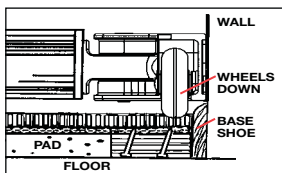

Figure 12
- D. Finally, attach Folding Tail Block and place against the stretch-off wall. The wheels lift it over most existing base shoe, protecting it from damage. (See figures 12 & 13.)
D. With the wheels down, the tail block clears most existing base shoe. (See figure 12.)